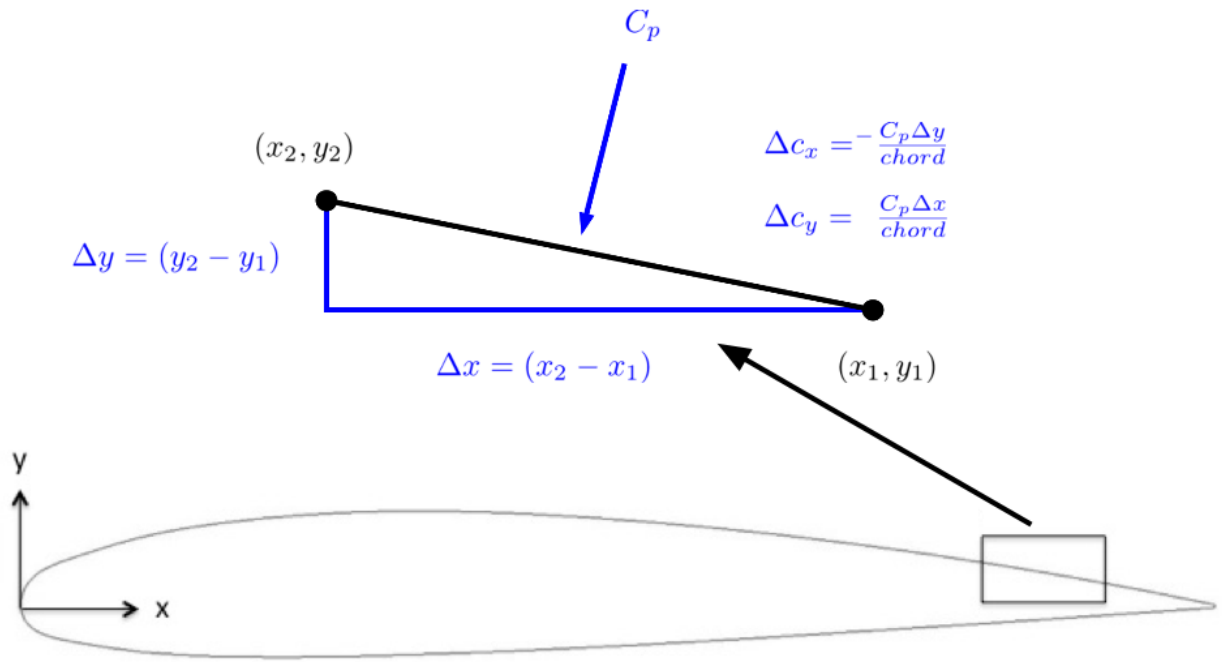

Figure 3: Relationship between flow direction and lift direction
2. The airfoil geometry is defined by a series of points. Each pair of consecutive points can be considered to be connected by a straight line that forms a panel as shown in Figure 3. The pressure coefficient data is available for each of these panels and the non-dimensional force acting perpendicular to a panel can be computed by multiplying the pressure coefficient by the panel length non-dimensionalized by
the chord length. This non-dimensional force acting perpendicular to a plane can then be decomposed into components into the Cartesian directions, Δc_x and Δc_y , as shown in Figure 3.